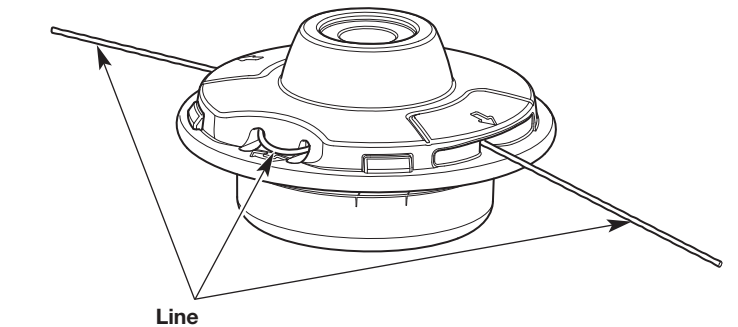

Fig. 11
4. Pull the ends of the line until the line is tight against the cutting head. Make sure the ends of the line are of equal length (Fig. 11). The line cutting blade will trim any excess line.